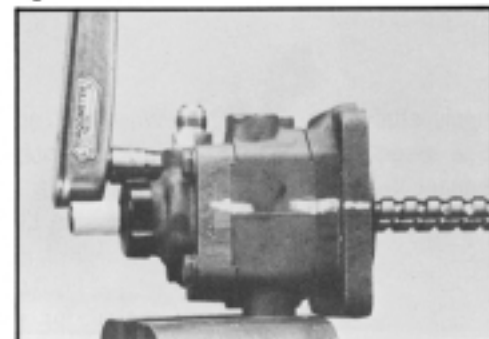

Figure 121
19. Assemble four upper cover bolts (6) and washers (6A). Carefully tighten the bolts while checking that the adaptor (18) valve assembly (15) and upper cover (7) faces are properly piloted and positioned with all seal rings in place. Torque bolts to 25-35 ft. lbs. (34-47 N m) if dry, or 21-27 ft. lbs. (28-37 N m) if lubricated. 9/16 inch socket required. SEE FIGURE 121.